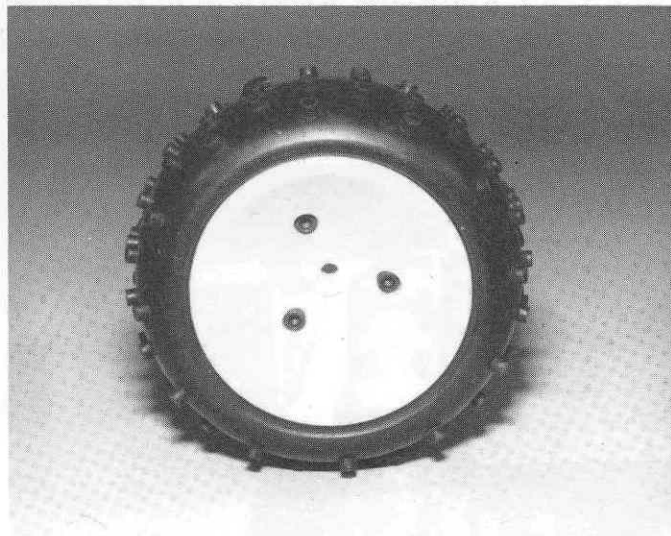

Fig. 199
□ **Fig. 199** Now take the outside half of the wheel and slip it inside the other side of the tire. Make sure the screw holes are lined up. Install the screws. Do not over-tighten.